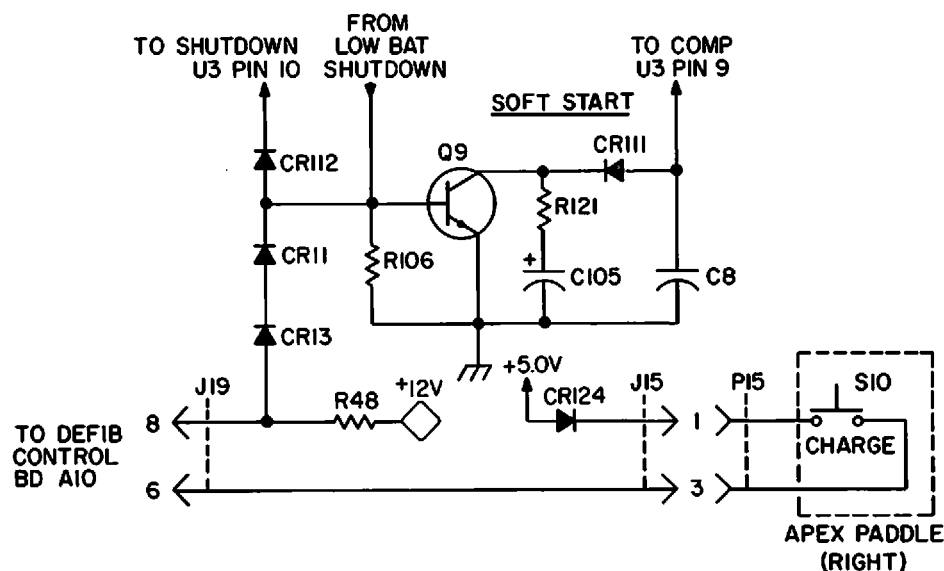

Figure 2-47
2.3.11.1 PWM Shutdown (Figure 2-47)